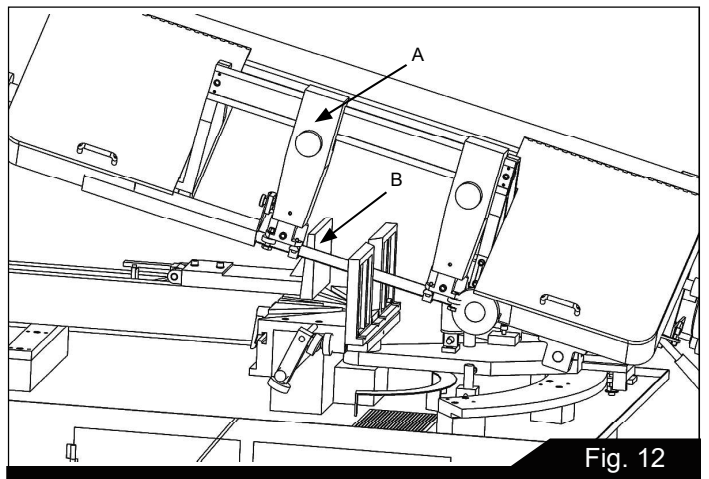

Fig. 12
5. Make sure the left blade guide bracket (A) is adjusted as close as possible to the left vise jaw (B) Fig. 12.
8. Proceed to cut throughout the workpiece, as shown in Fig. 12. The machine will turn off at the completion of the cut.
4. Remove filler cap (A, Figure 12) and fill gear box with Mobil DTE® Oil Heavy Medium until level reaches dot in middle of sight glass.